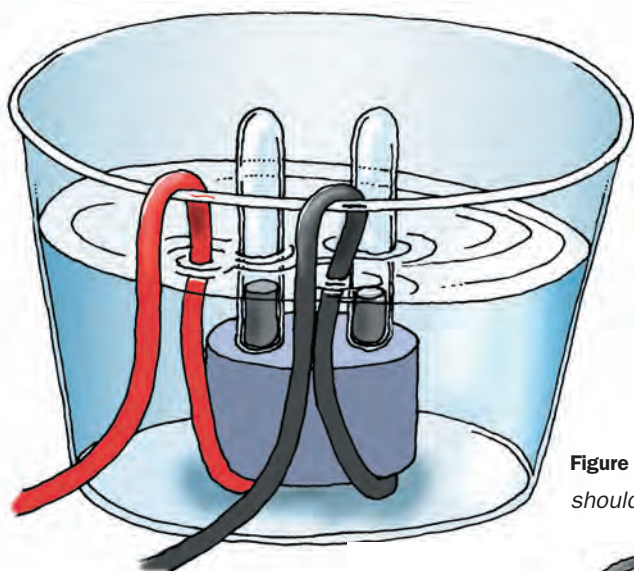

Figure 20.3 At this stage, your apparatus should look like this.
9. Repeat Steps 7 and 8 with the second test tube. (Do not worry if a few small bubbles of air get into the tubes.) Figure 20.3 shows what your apparatus should look like. Wash your hands after handling the tubes.